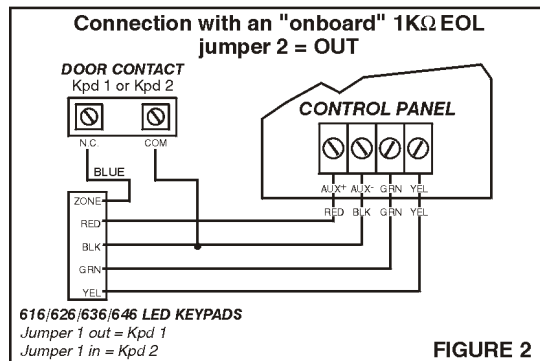

FIGURE 2
2) Connection with an “onboard” 1K Ω EOL resistor Jumper 2 [J2] = OUT (See Figure 2 and 4)